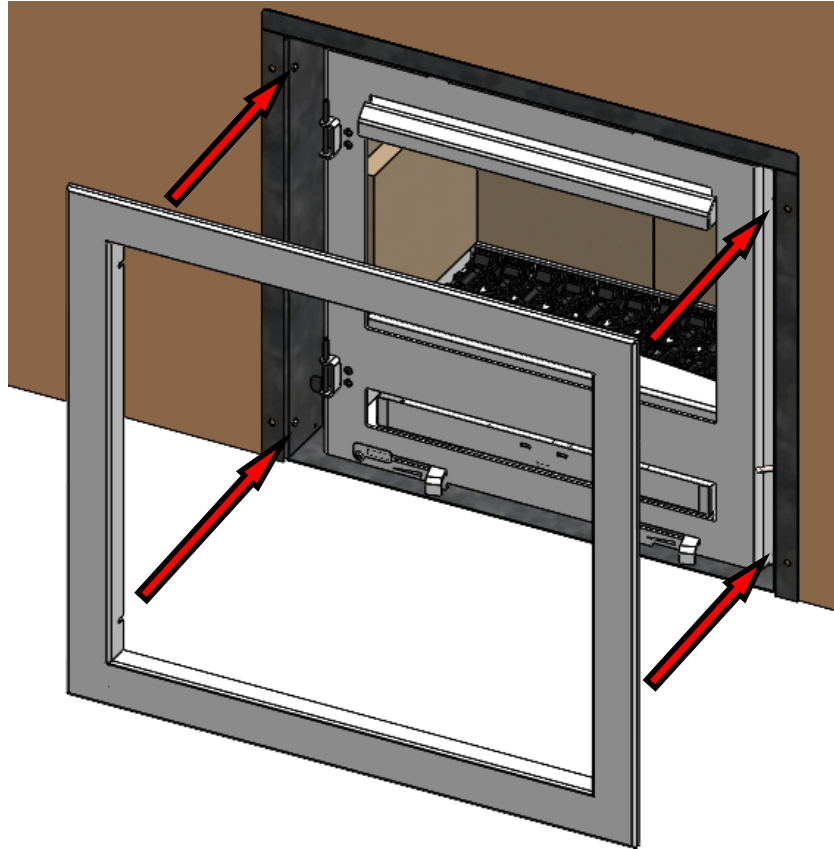

Fig. 15. Surround Trim Fitment
- The surround trim can be positioned onto the screws, within the casing, as per Fig. 15.